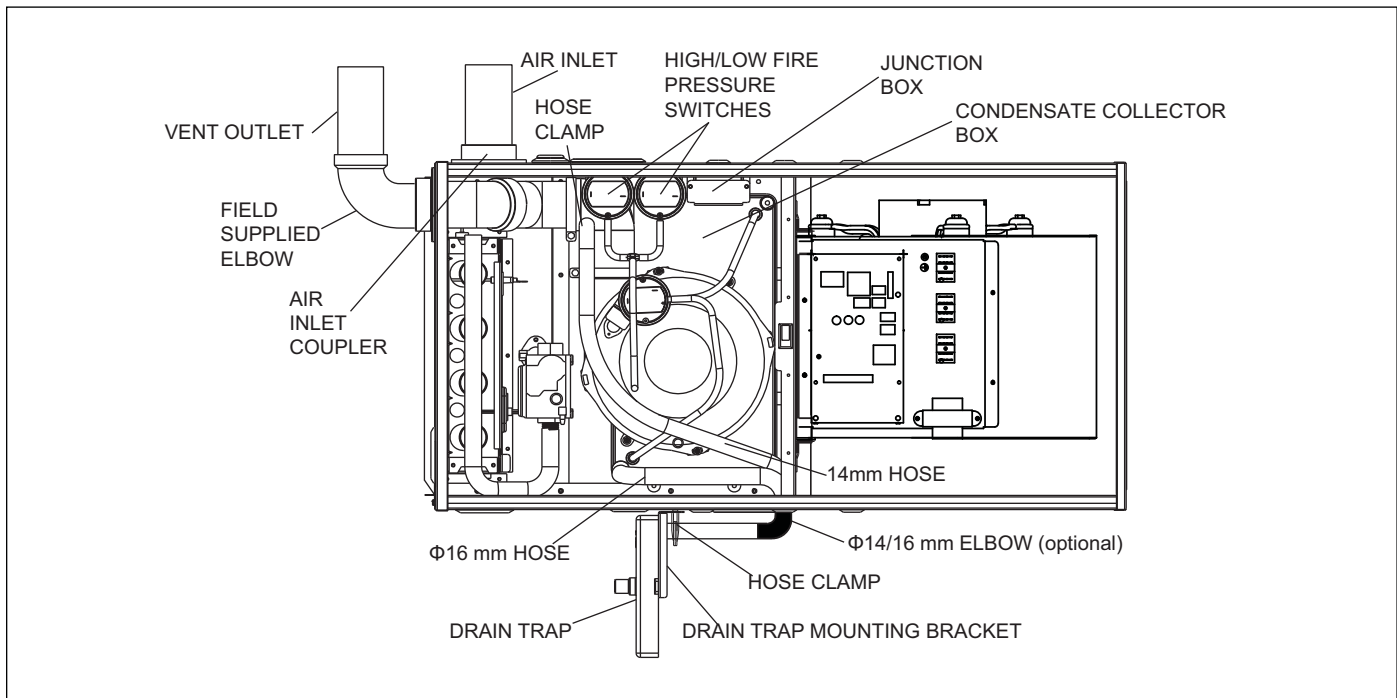

Figure 17 Horizontal Left Side Installation, Vent Through Top Panel
- ▶ For horizontal left hand installation (air discharge to the left), condensate overflow pressure switch hoses need to be rerouted (see Figure 17).
For installations with left air discharge and venting outlet through furnace top panel (see Figures 17 and 18).
9. Connect 14 mm hose between the side inducer drain port (remove black rubber plug to connect hose) and drain trap. Refer to Figure 17.
14. Relocate the High/Low Fire Pressure Switches (2) to the opposite side of the cabinet (as shown in Figure 17 and 18). Screws for mounting these switches should not interfere with any components inside the furnace.